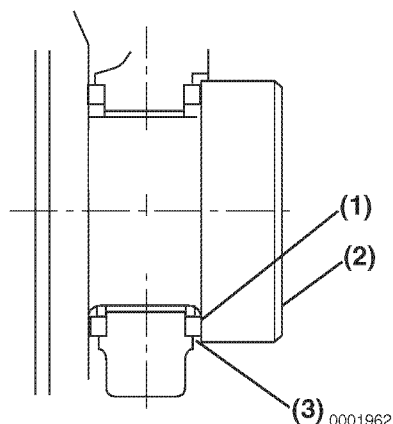

Figure 6-103
- **Method B:** Use a feeler gauge to measure the clearance (**Figure 6-103, (3)**) between the thrust bearing (**Figure 6-103, (1)**) and crankshaft (**Figure 6-103, (2)**). Record the measurement. See *Thrust Bearing* on page 6-15 for the service limit.